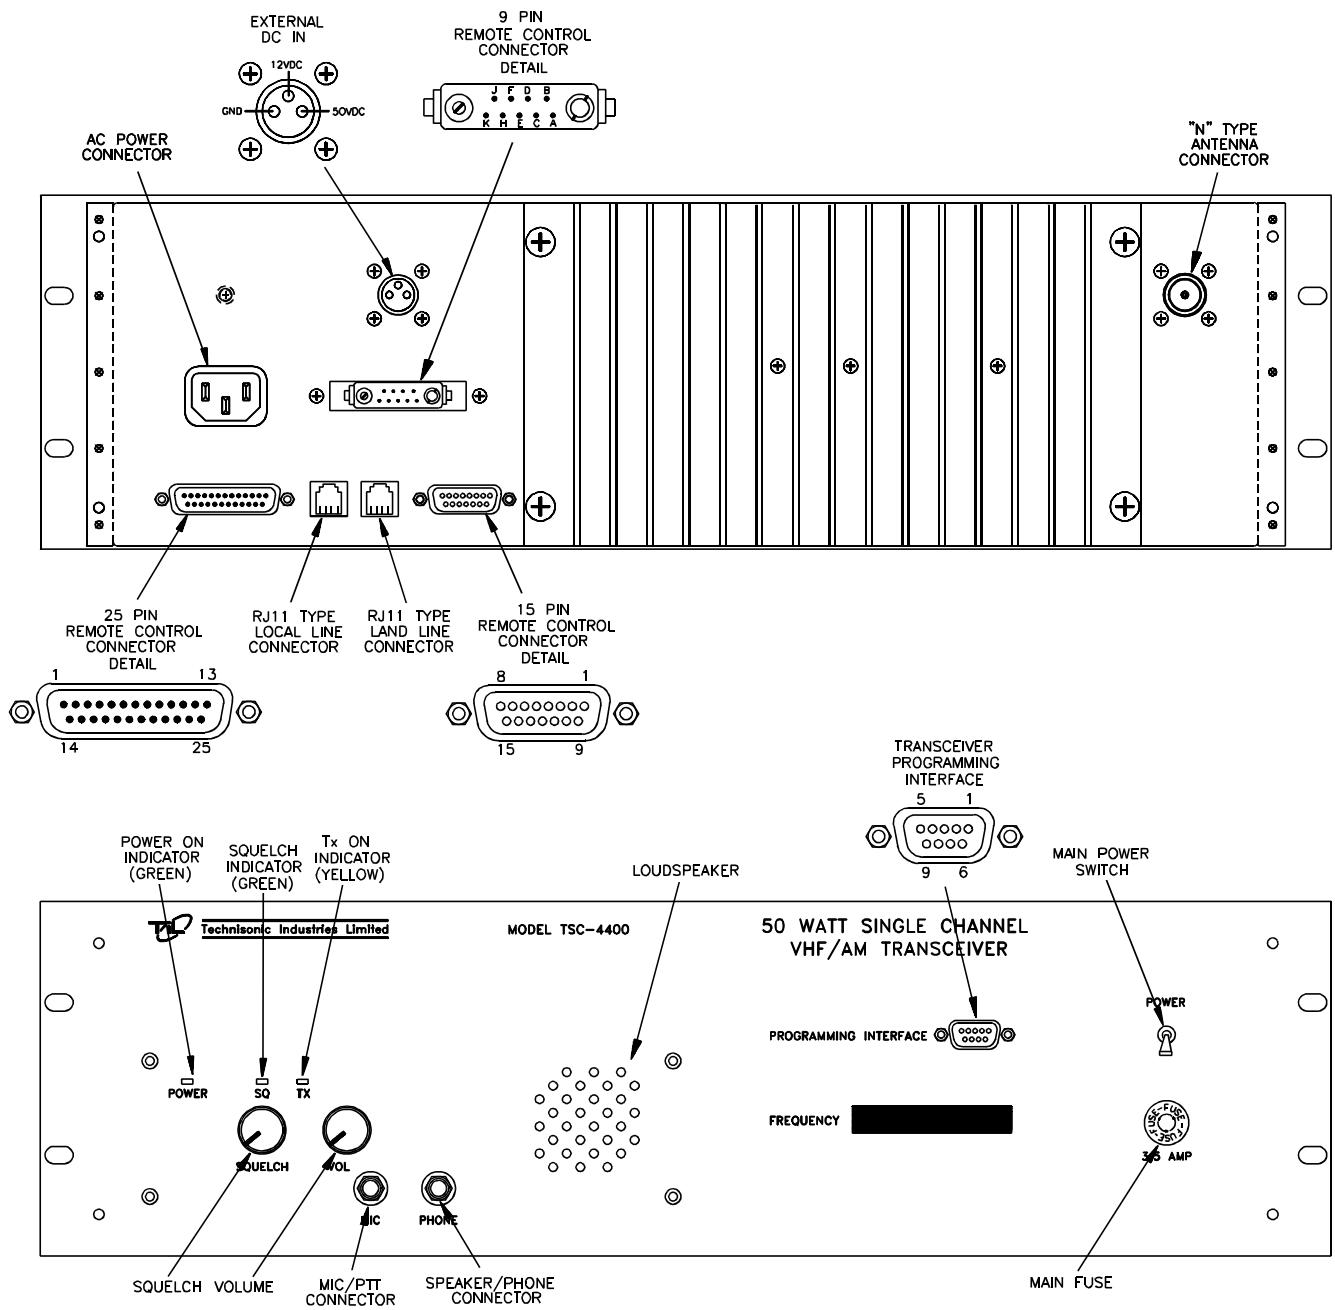

Figure 3-1 Single Channel Transceiver Controls and Indicators
Provision is made for connection of an external loudspeaker or headphone to the SPEAKER/PHONE jack of the transceiver, as shown in Figure 3-1.
- (1) Mount Transceiver in 19 inch rack with 4 screws.
- (2) Install Microphone in Microphone (PTT) connector if required.
- (3) Ensure that Transceiver POWER ON/OFF switch is set to OFF.
- (4) Install AC line cord in AC chassis connector on rear panel.
- (5) Install Remote Control connector to 9 Pin or 25 Pin connector as required. (Refer to Figure 3-1 for connector pin outs.)
- (6) Connect antenna connector to rear panel chassis N Type connector.
A view of the front and rear panel is given in Figure 3-1. A functional description of each of the operator's switches, controls and indicators, and the microphone PRESS-TO-TALK switch, is given in Table 3-1, Operator's Switches, Controls and Indicators.
- (1) Set AC ON/OFF switch to OFF.
- (2) Refer to Figure 3-1 for pin locations to hook up external DC Power.